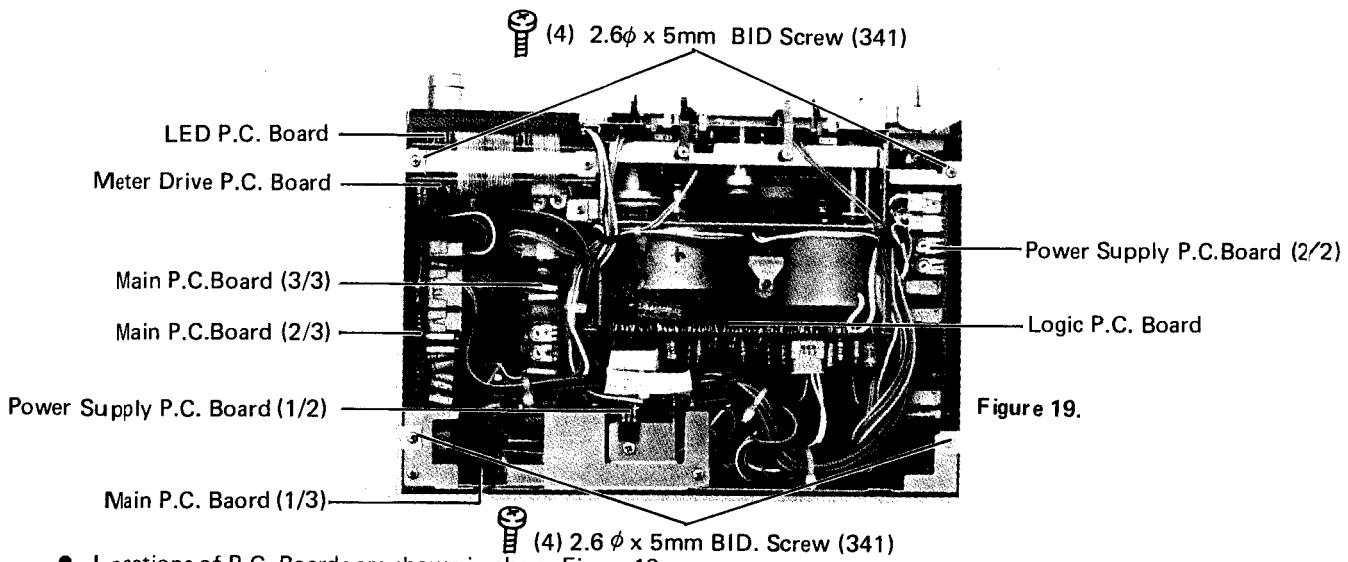

Figure 19.
- Remove four screws (4) holding the side panels as shown in Figure 19.
- Locations of P.C. Boards are shown in above Figure 19.